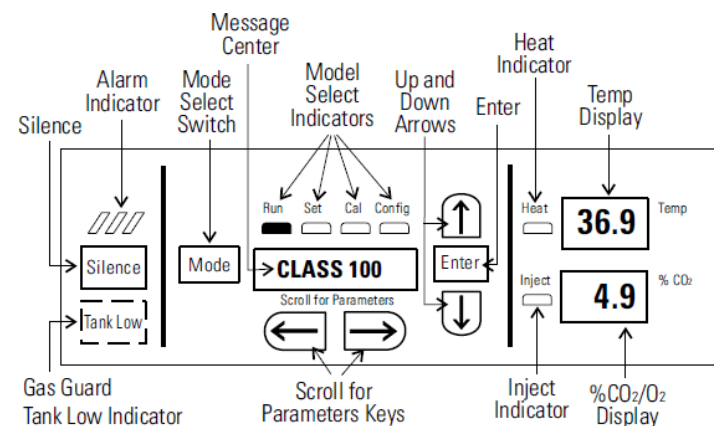

Figure 20. 3110 Operating Panel
- a. To program the address of a Thermo 3110 incubator, Refer **Figure 20** and follow these instructions: